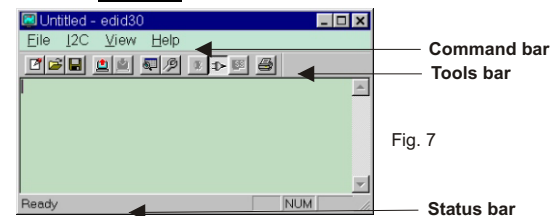

Fig. 7
4. Click **OK** button. The main menu appears (as shown on Fig. 7).